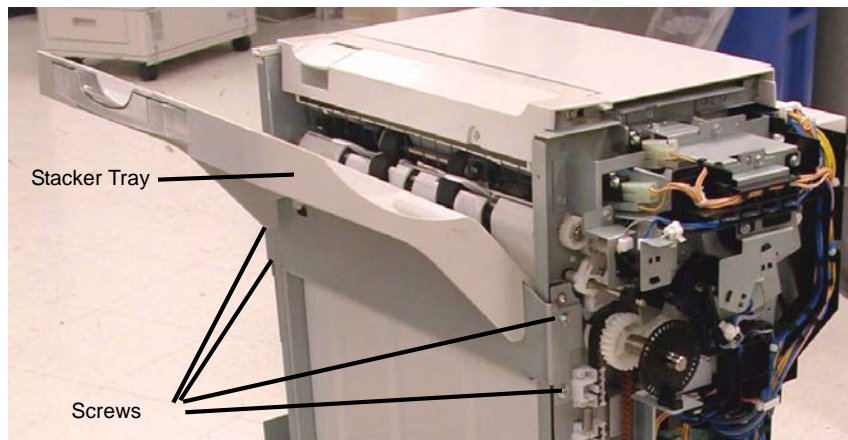

Figure 1 Removing the Stacker Tray
4. Remove the Stacker Tray (Figure 1).
- a. Remove the Screws (4).